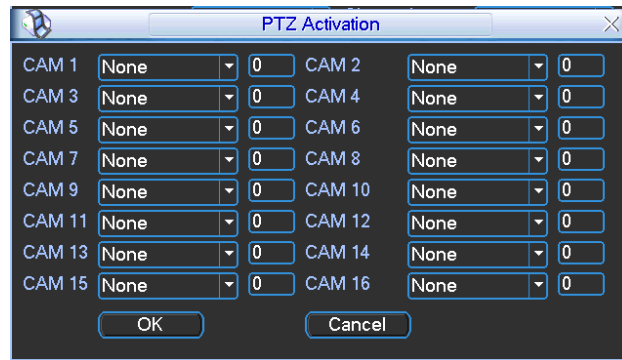

Figure 4-18
- PTZ activation: Here you can set PTZ movement when alarm occurs. Such as go to preset, tour & pattern when there is an alarm. Click “select” button, you can see an interface is shown as in Figure 4-18.